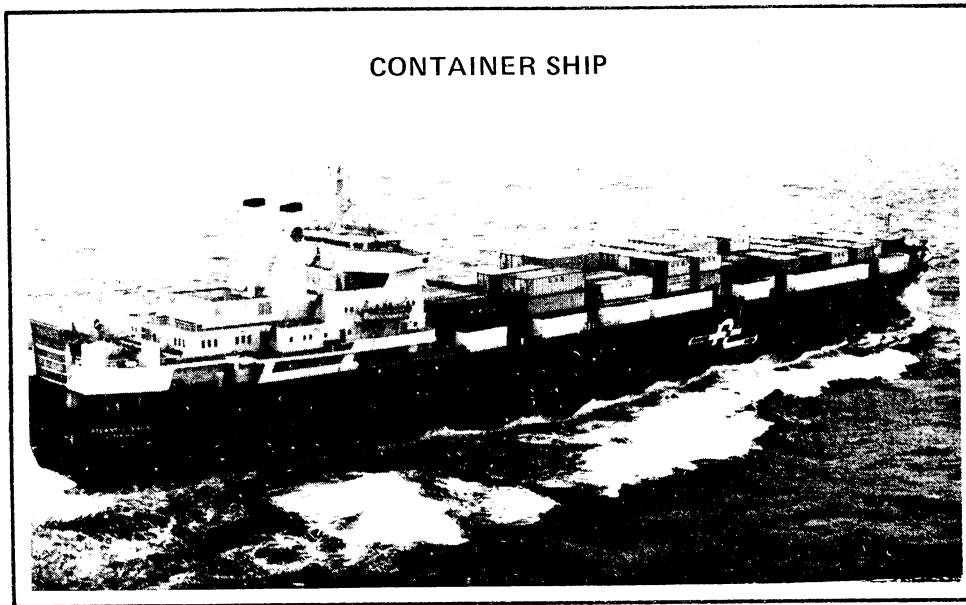

Figure 8-65 Container Ship
- (1) superstructure aft,
- (2) lack of derricks,
- (3) flat, clear midship and forepart, usually with no rise to the bows, and
- (4) the presence of containers, which are, in effect, the cargo compartments tractor-trailer trucks or railway flatbeds. (See Figure 8-65.)